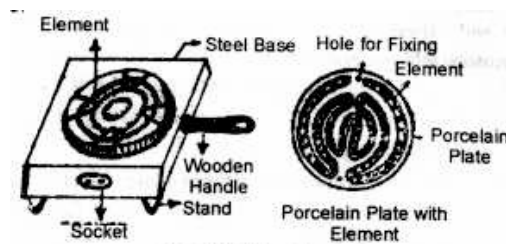

Fig. 9.3. Electric stove
- 1. Construction.** The construction of an electric stove is shown in Fig. 9.3. it consists of porcelain plate fitted a spring shaped element. A wooden or bakelite handle is fitted to the stove for its easy handling. A socket is mounted at one side of its base for electrical connections. The construction of porcelain plate the element are shown separately in the same figure.